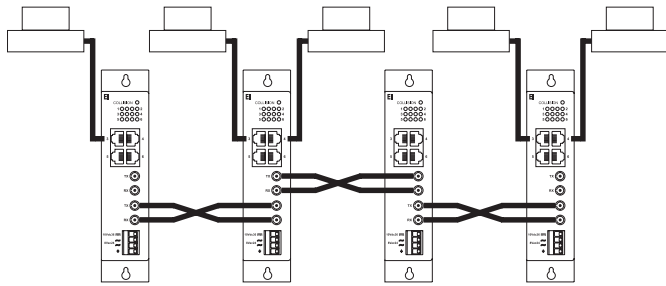

Figure 8. Cascading with Duplex Fiber Cables
A common network design decision is whether to optimize the number of nodes or the network diameter. The maximum number of nodes (62) is achieved with twisted-pair media and uses ten EI8-10T units configured in a distributed-star topology (Figure 8). The maximum network diameter (2200 m) is attainable using fiber links where no data path has more than four EI8-10T/FL units—regardless of topology—and twisted-pair is used to connect each end device.